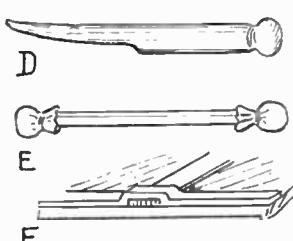

Fig. 2—The home-made tools
In most designs, the lead strips, perchance, pass over each other, and they should be well pressed down to contact closely, as in detail (F) in Fig. 2. The sharp edges of the peg will be most useful here to mould the top lead over the one beneath. As the work progresses, a sharp eye should be kept to see if any parts of the lead strip rises from the glass, and such parts be pressed well and firmly down again.